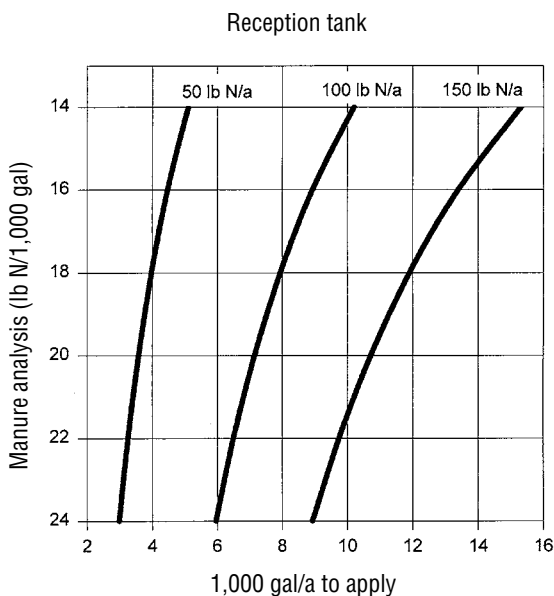
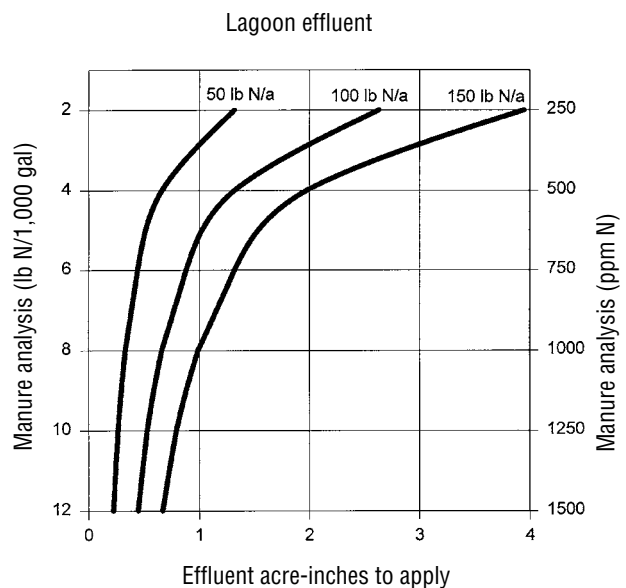

Figure 1.—Determining application rate for reception tank manure.
Figure 2.—Determining application rate for lagoon effluent.
Your goal is to match manure nutrient application rates with crop removal rates. Table 1 and Figures 1 and 2 provide the information you need to determine nutrient removal for many annual and perennial crops. Instructions for using the table and figures follow.
4. Find the figure below (Figure 1 or 2) that represents the type of manure you want to apply. Let's assume you want to apply lagoon effluent, so you'll use Figure 2.
5. Figure 2 contains three lines representing N application rates of 50, 100, and 150 lb N/a. Find the line closest to the rate you need to apply. In this example, you'll use the line for 50 lb/a.